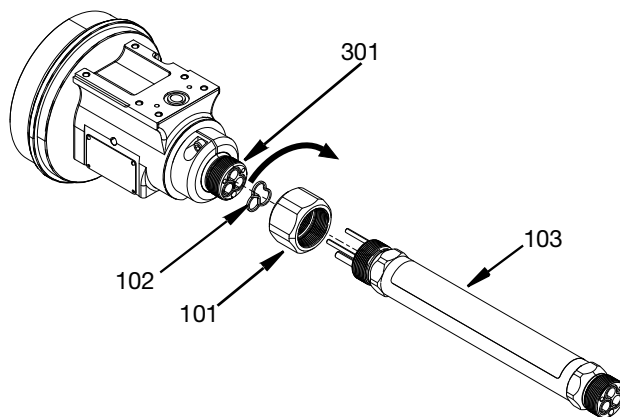

FIG. 28
- Apply a thin coat of lithium grease to the adapter gasket (102) and install into the end of the center body (301).
- Apply anti seize to lubricant to threads of center body (301) and long tube assembly (503).
- Rest the turnbuckle locking nut (101) on the threaded end of the center body (301) but do not thread on.
- Align and insert the pins on the end of the long tube assembly (103) into the central body (301). Turn the turnbuckle nut clockwise as seen facing the swivel housing so that the threads of the long tube assembly (103) and center body engage simultaneously. Torque the nut to 75 ft-lb (101.69 N•m). See FIG. 28.